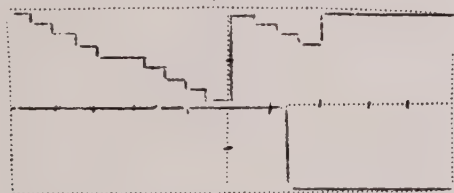

FIG. 3.3. OSCILLOSCOPE DISPLAY OF GATE MODE.
14. SWITCH 400 MODE SWITCH TO GATE. A DISPLAY AS SHOWN IN FIG. 3.3. SHOULD BE OBSERVED.